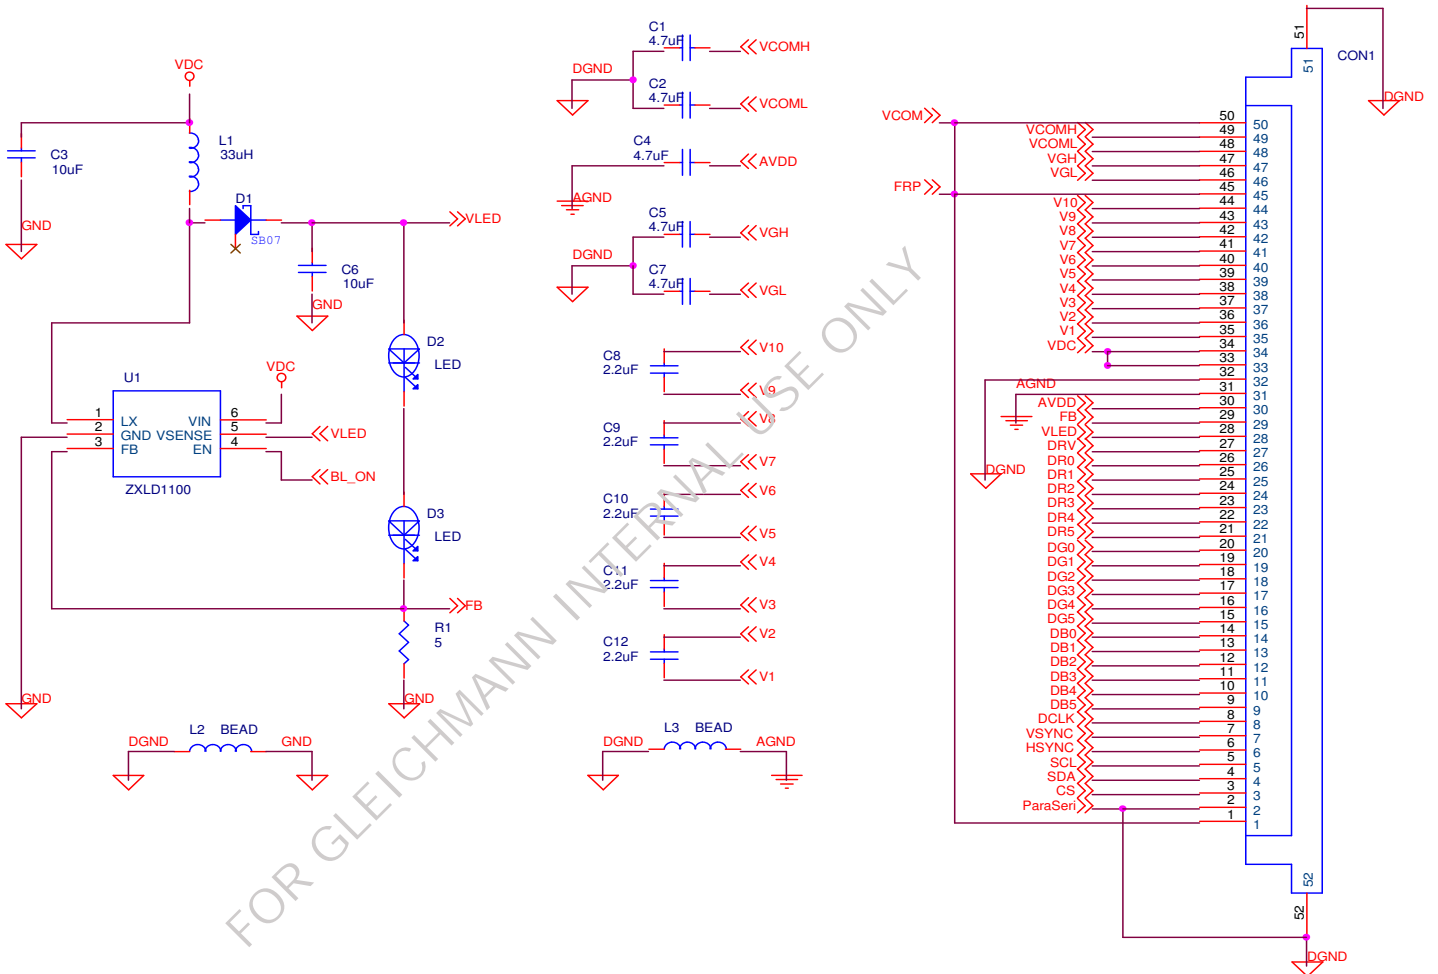

Fig.7 External LED Driver Application Circuit
See Fig. 7 for the application circuit.
According to Fig. 7, the LED driver(ZXLD1100) and R1(5 ohm) with 0.1V feedback (FB) can provide a constant 20mA current for LED backlight unit. To control the back light on/off timing, user should create a control signal BL_ON (please refer to the ZXLD1100 date sheet). The LCD driver output DRV signal can also be used to drive BL_ON.